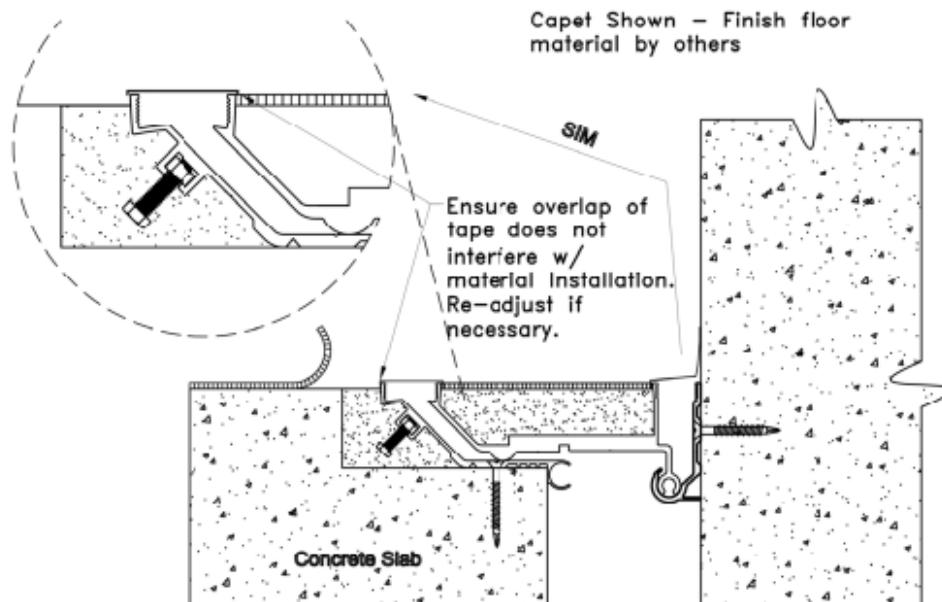

FIGURE 12
12. Install flooring material. Keep joint opening protected until surrounding flooring installation is complete. **SEE FIGURE 12**